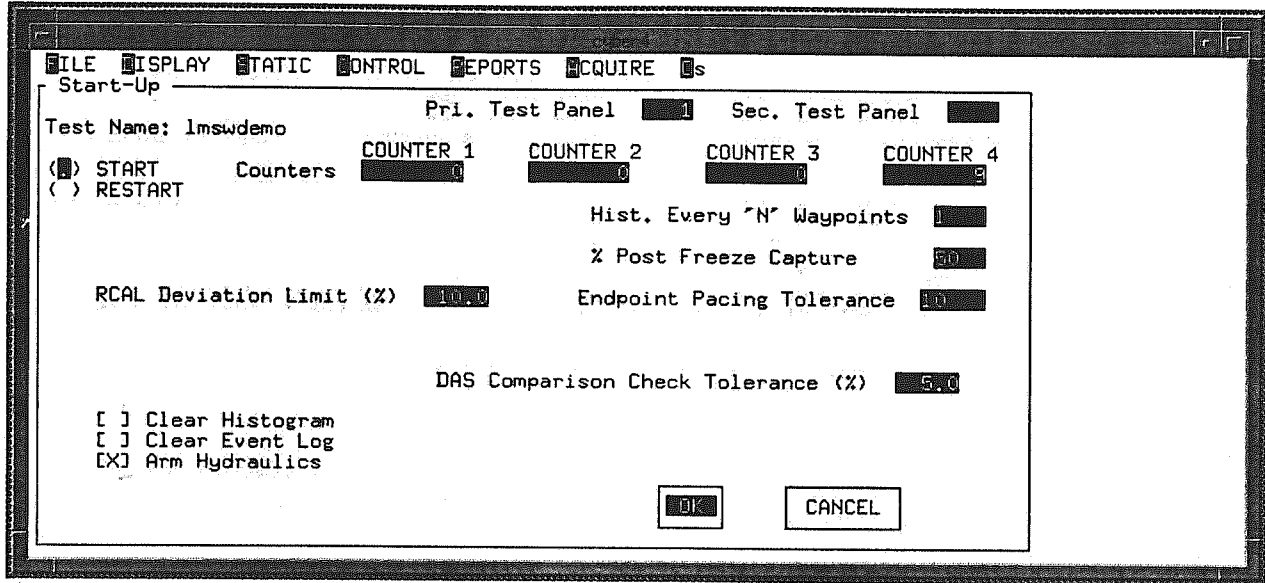

Figure 6-1. Start Up Screen
Step 1: Select the Control menu, option Start Up. The Start Up screen, Figure 6-1, is displayed.